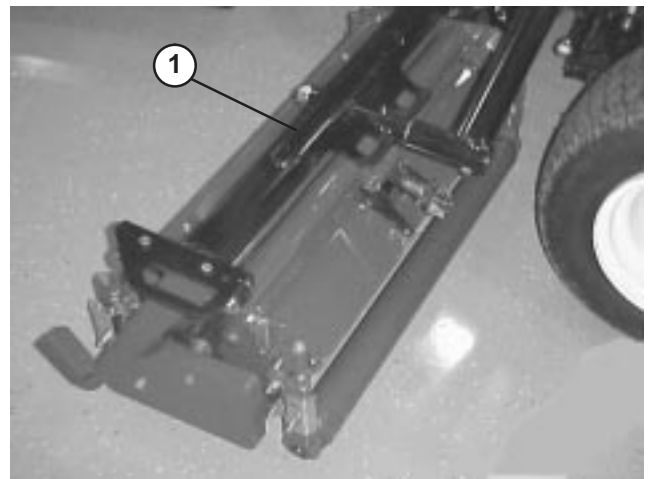
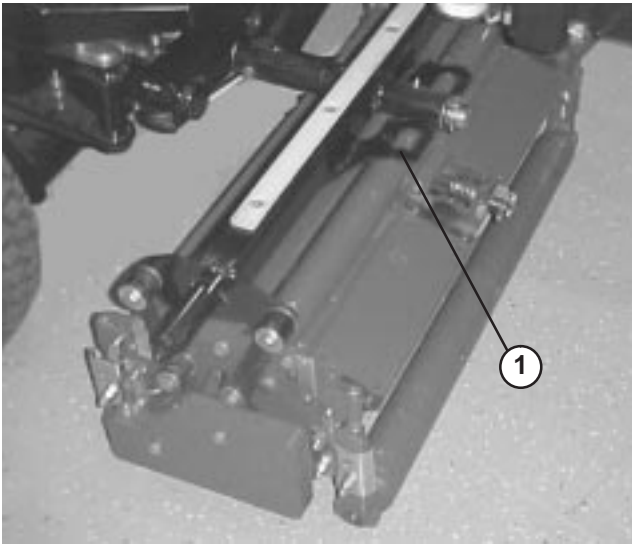
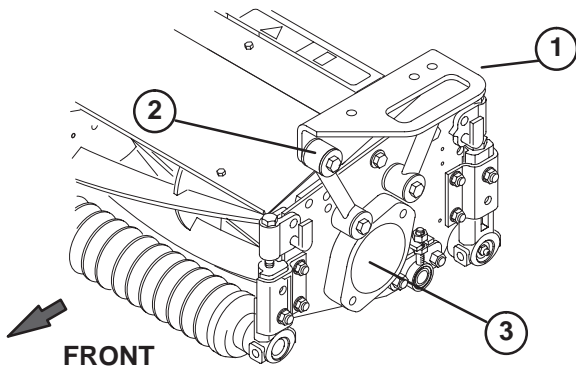

Figure 16
Figure 17
Figure 18
Note: With lift arms fully raised, hoses should be routed as shown in figure 18 and clear lift arm by .04–.12”.
2. Position a front carrier frame (Fig. 16) onto each front cutting unit. Align mounting holes with mounting links as shown in figure 18.
- Position rear carrier frame (Fig. 17) onto rear cutting unit, aligning mounting holes with mounting links as shown in figure 18.
- Secure each mounting link to carrier frame with a 3/8-16 x 2-1/4" lg capscrew, (2) flatwashers and a locknut, as shown in figure 18. Position a washer on each side of link when mounting. Torque to 31 ft-lb.
3. Remove shipping plug from bearing housings on remaining cutting units (Fig. 18).